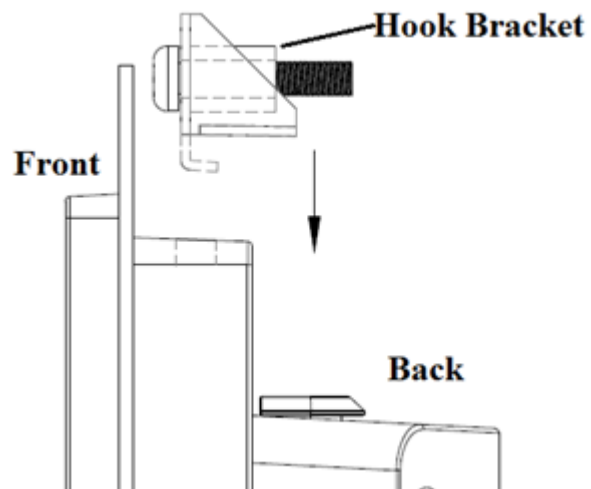

Figure 2.30 Hook brackets for panel mounting
3. Insert the hook brackets into the holes following the direction of the arrows shown in Figure 2.30 and hang the panel PC.